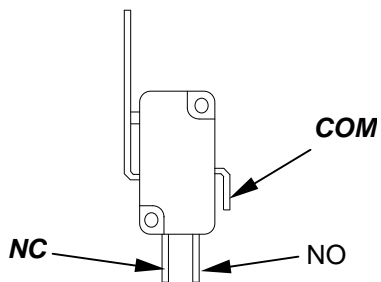

Figure 9. Microswitch terminals.
14. Open the breaker. Connect six wires to the available terminals on the Network Interlock device using the crimp-on terminals provided. Connect two of the wires to the NC and COM terminals of the microswitch as shown in Figure 9.
11. Open the breaker. Connect six wires to the available terminals on the Network Interlock device. Connect two of the wires to the NC and COM terminals of the microswitch as shown in Figure 9.